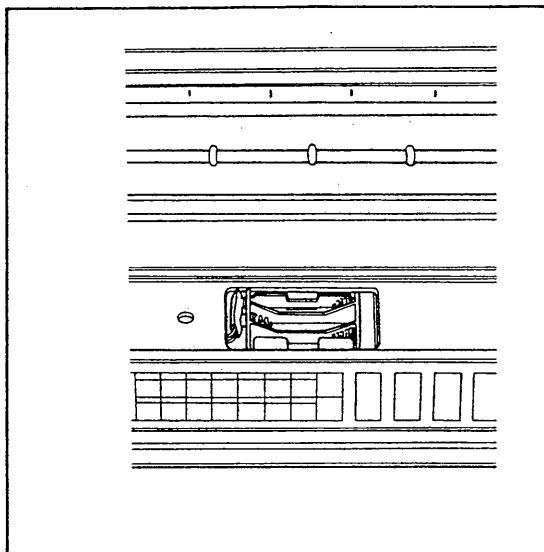

Figure 5-12.
- (5) Insert new batteries. Be sure to insert the new batteries with the polarity (+ and -) the same as indicated inside the holder (see Figure 5-12).